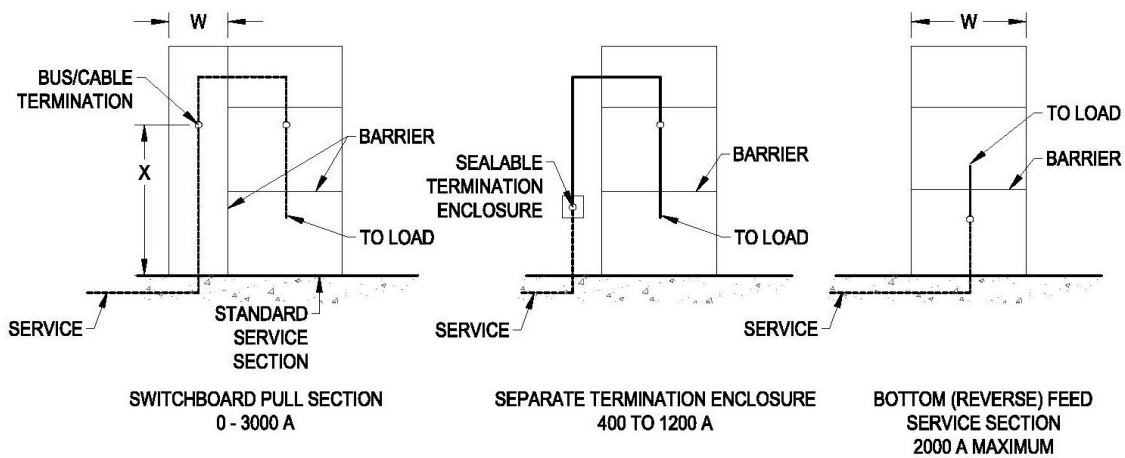

Figure 107. Underground Service Termination Switchboard Service Section, 400 to 3000 A, 0 to 600 V (EUSERC 345) (STD-D-6258)
- For pull section details when used on underground services, see Figure 107 (or refer to EUSERC 345) and Table 36.
- The minimum dimensions in Figure 107 are for vertical entry at the top or bottom only. Side or rear entry of the service cable into the pull section may require a greater dimension than that shown in Table 36.